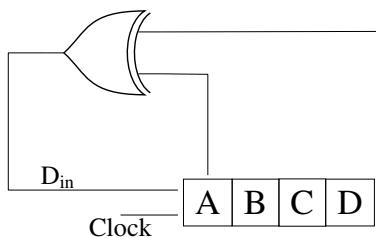

Fig. 5.15
15. A 4-bit shift register circuit configured for right-shift operation, i.e.  $D_{in} \rightarrow A, A \rightarrow B, B \rightarrow C, C \rightarrow D$ , is shown in Fig. 5.15. If the present state of the shift register is  $ABCD = 1101$ , the number of clock cycles required to reach the state  $ABCD = 1111$  is \_\_\_\_\_. (GATE EC 2017)